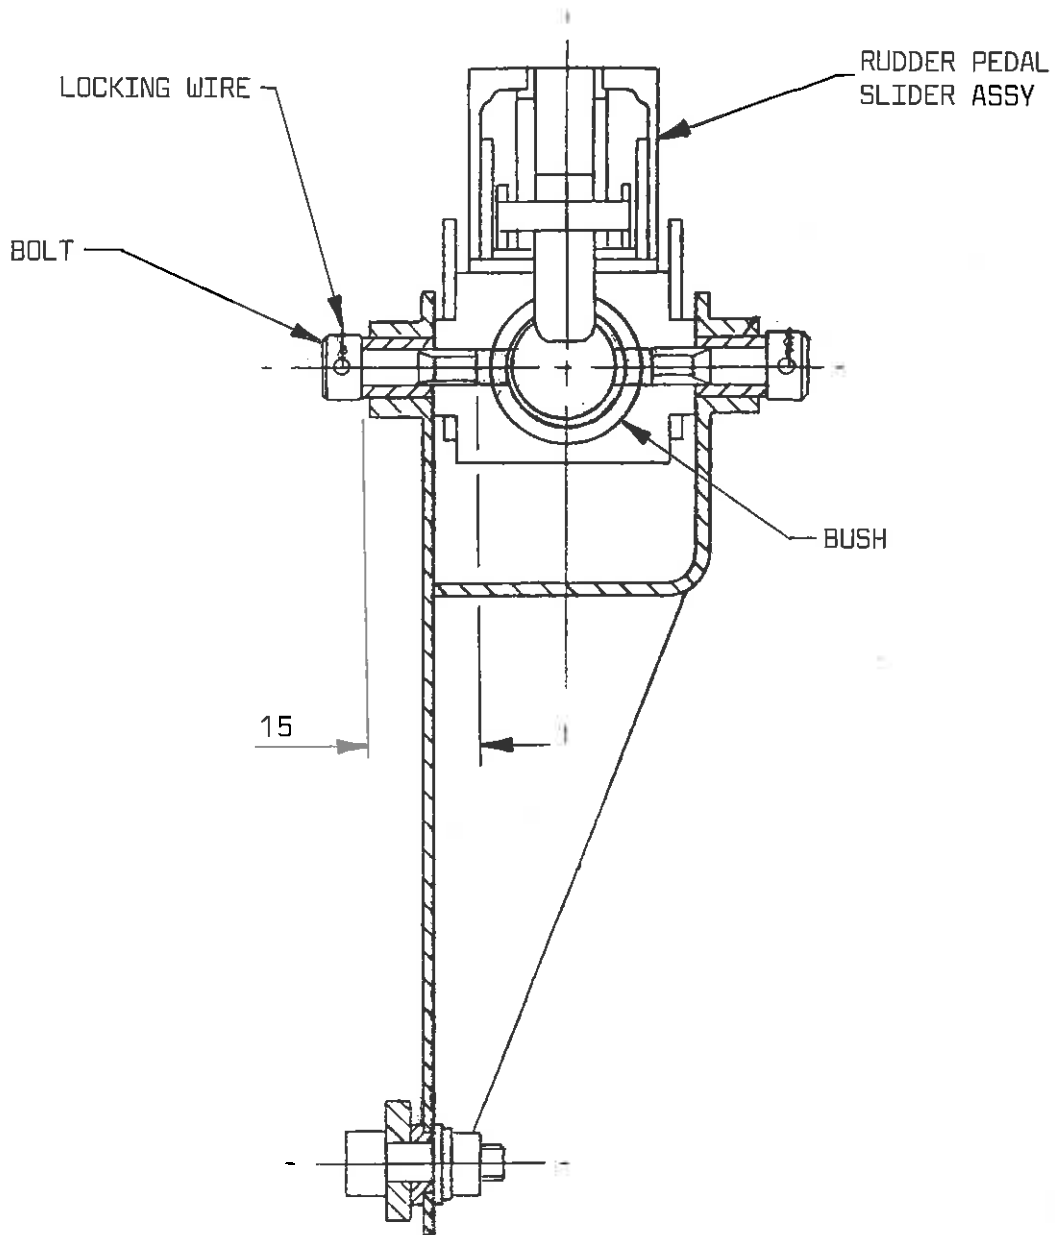

Fig 1
2. If slider movement is restricted or appears stiff, inspect slider bush and pivot bolts for any visual signs of fouling, ref. Fig. 1.